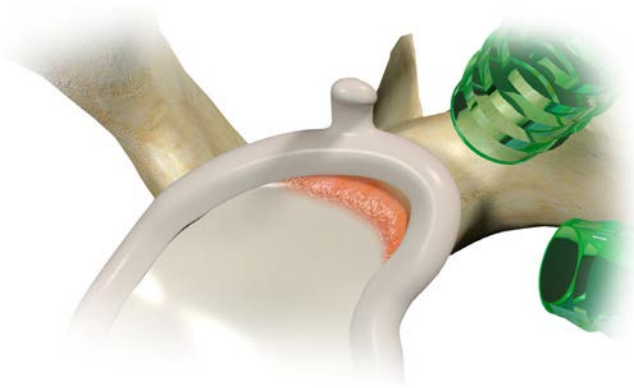

Figure 1
The Cayenne Medical, Inc. Quattro GL Suture Anchor is intended for the reattachment of soft tissue to bone for Bankart repair and SLAP lesion repair. The anchor is pre-loaded with one (GL) or two (GL2) strands of #2 Force Fiber suture (GL color: solid blue & GL2: solid blue/blue co-braid). The unique eyelet design within the body of the PEEK anchor allows for easy suture sliding and suture management (Figure 1).